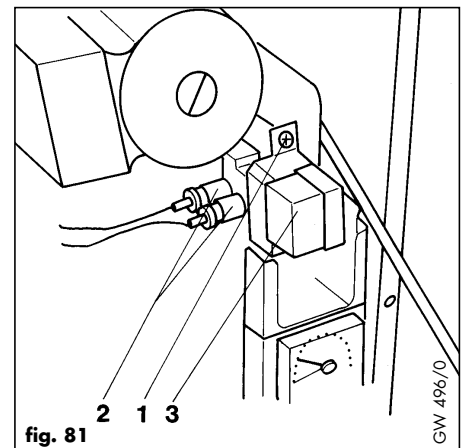

fig. 81
7.13 Replacement of ignition transformer (fig. 81)
- Remove screw (1) and slide spark generator forward to release from boiler chassis.
- Disconnect leads by undoing two cable grips (2) and pull out.
- Pull off mains connection cover (3) and disconnect electrical connections.